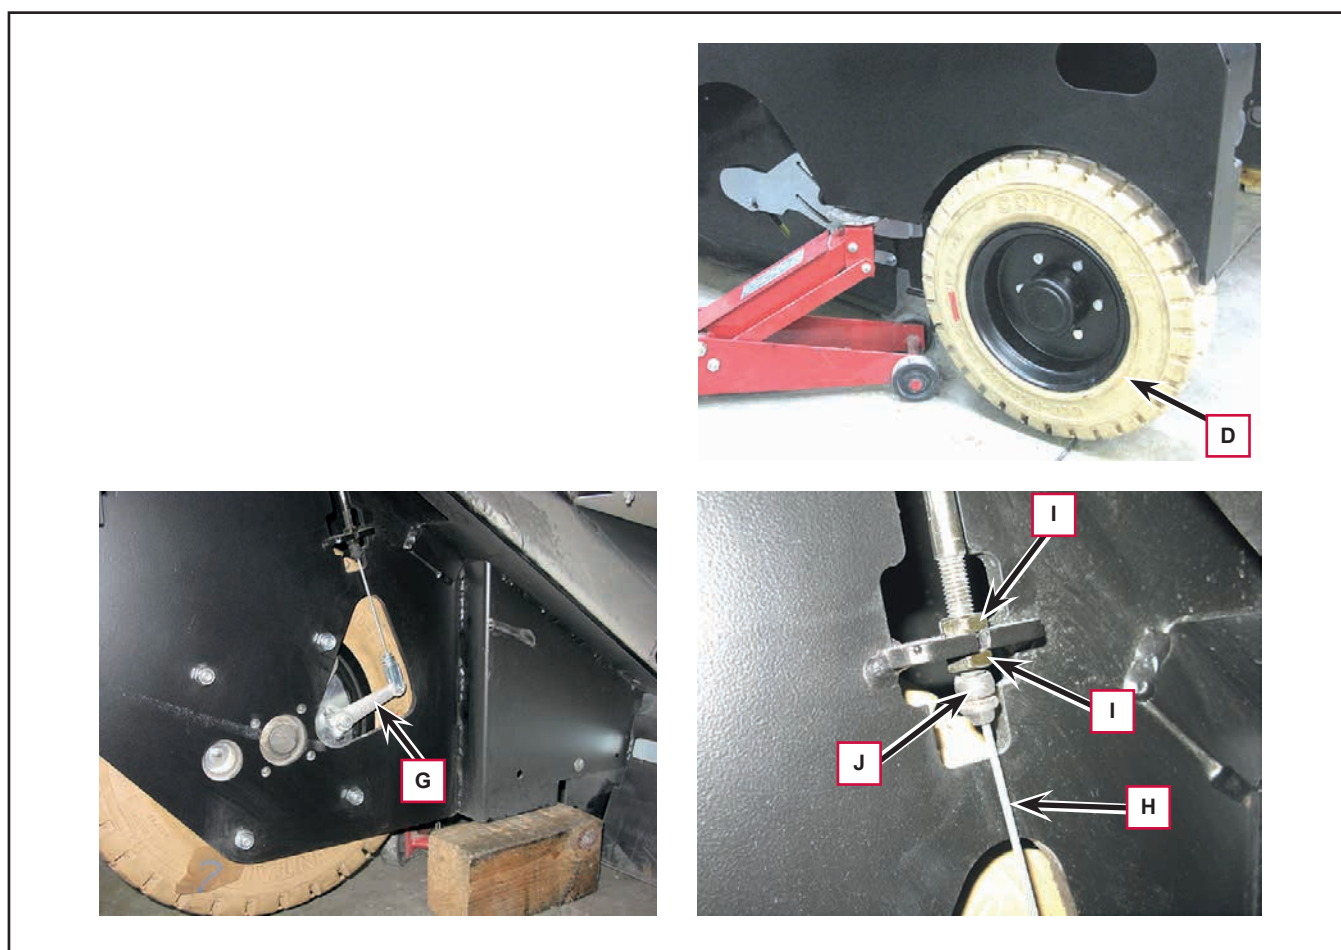

Figure 3
9. Lower the dust seal (J, Figure 3).
- With the parking brake disengaged, the wheel (D) turns freely, without touching the braking drums.
- Keeping the brake lever (G) slightly turned upwards, the braking mass starts rubbing against the wheel (D).
11. Perform the check described in the previous step, and if necessary adjust the brake tie rod (H) as follows:
- Slacken off the nuts (I) and adjust them until the situation described in the previous step is met; with the regulation complete, tighten down the nuts (I).